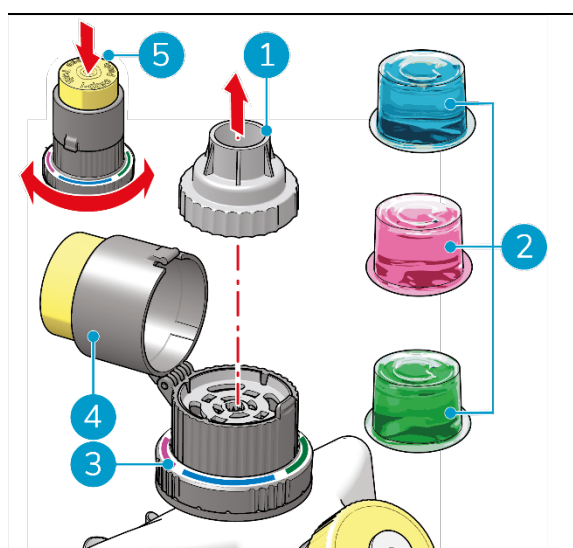

Figure 19
5. If applicable, remove the old i-dose pod and remove the cap (Figure 19, pos. 1).
6. Place the desired i-dose pod (Figure 19, pos. 2) in the i-dose injector.
7. Put back the cap (Figure 19, pos. 1).
8. Close the i-dose top (Figure 19, pos. 4).